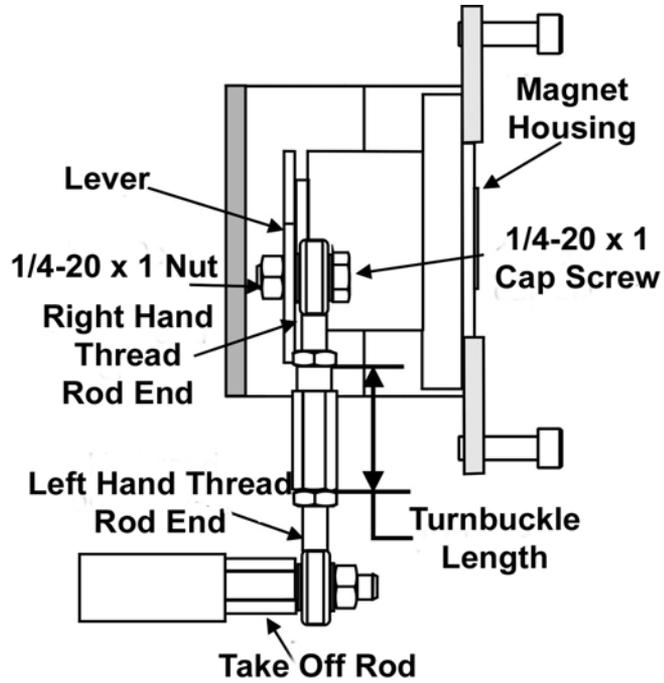

Figure 17 Reciprocating Linkage
5. Thread the take-off rod to the actuator stem connector. Refer to Figure 17 on page 47. Ensure that the travel pointer located on the coupling is correctly positioned.
10. Thread the turnbuckle onto the left hand threaded rod end. Refer to Figure 17 on page 47.